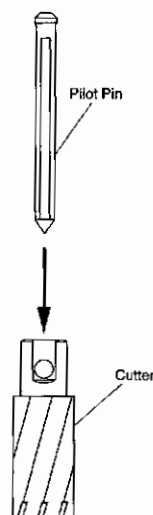

Fig. 13
- (2) Insert a pilot pin, appropriate for the cutter you use, into the cutter. (Fig. 13)